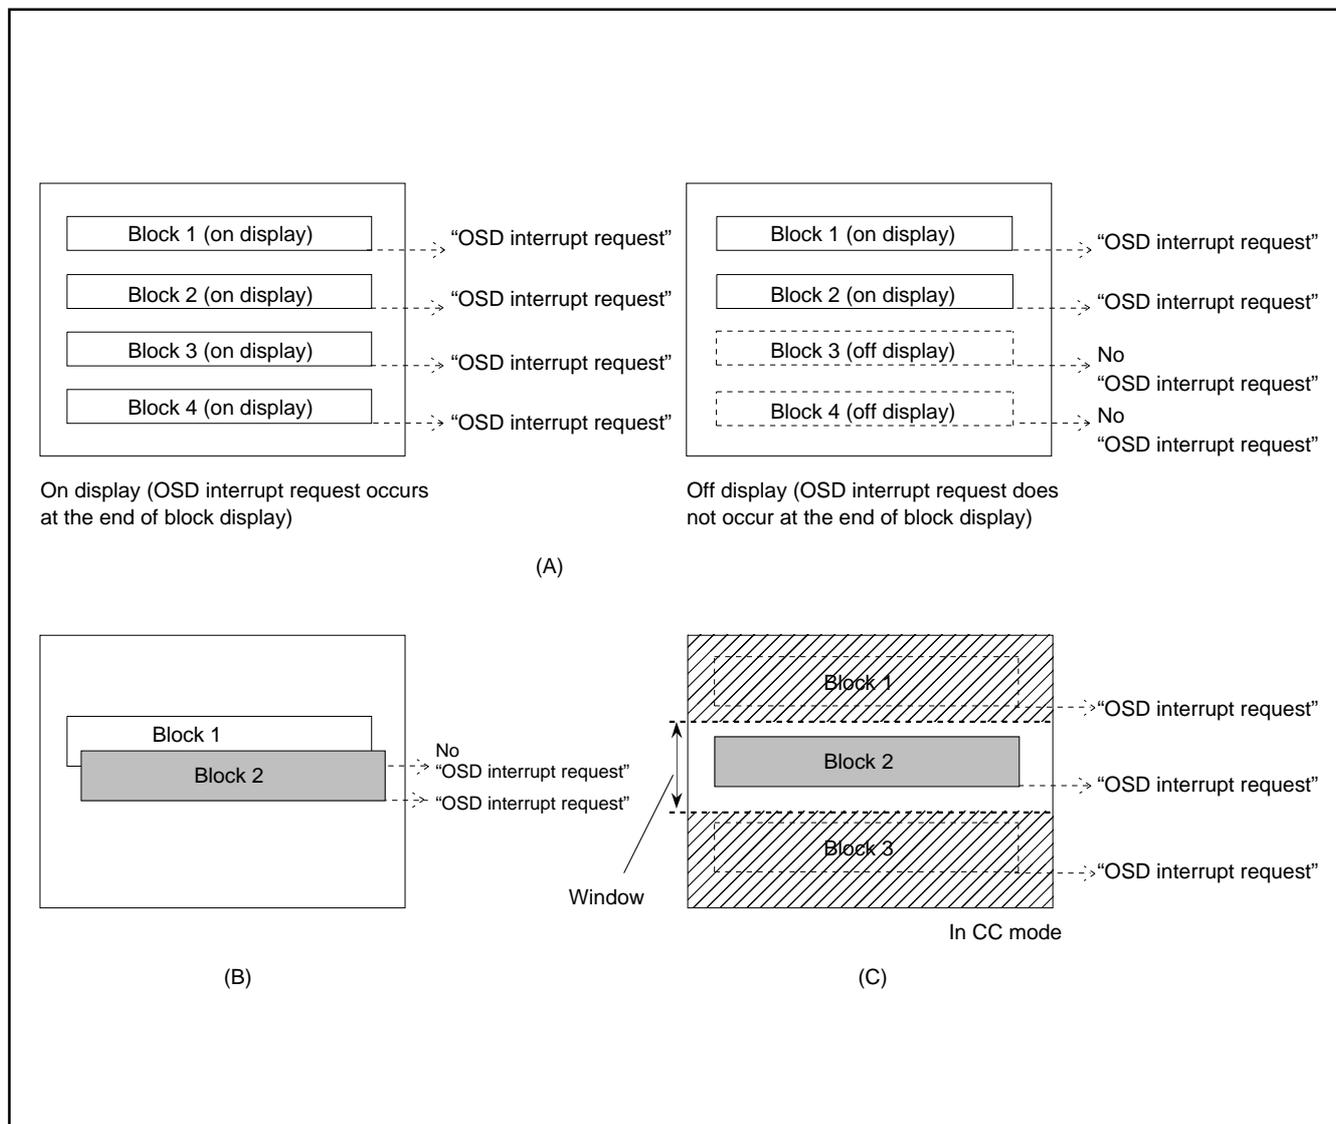

Fig. 78. Note on occurrence of OSD interrupt
**Notes 1:** An OSD interrupt does not occur at the end of display when the block is not displayed. In other words, if a block is set to off display by the display control bit of the block control register (addresses 00D016 to 00DF16), an OSD interrupt request does not occur (refer to Figure 78 (A)).
**2:** When another block display appears while one block is displayed, an OSD interrupt request occurs only once at the end of the another block display (refer to Figure 78 (B)).
**3:** On the screen setting window, an OSD interrupt occurs even at the end of the CC mode block (off display) out of window (refer to Figure 78 (C)).